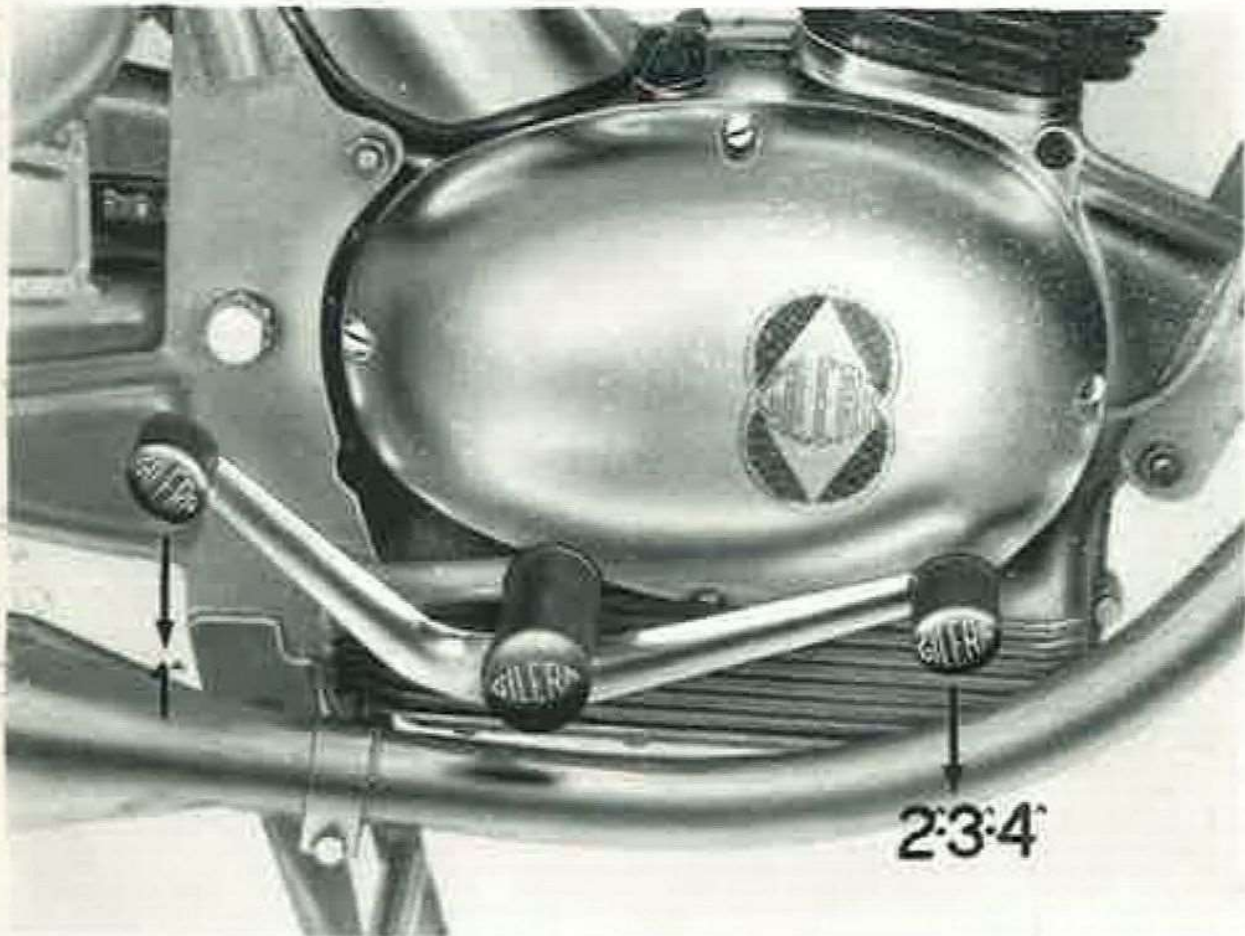

Fig. 10
position (0) to first gear (1) (See Fig. 10); then gradually release the clutch lever, simultaneously accelerating the engine.